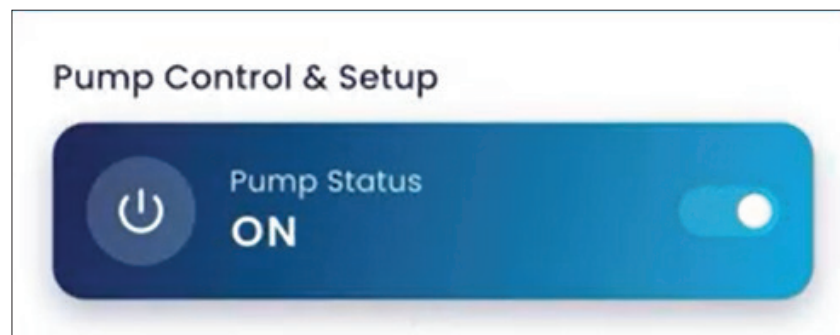

Fig.3.2
1. Start the pump by toggling the button in the upper-right of the pump control page so that the Pump Status displays '**ON**', as shown in Fig.3.2.
- On the **Pump Control & Setup** screen, make sure the pump is '**ON**'. Refer to Fig.3.2 in the previous section for a visual reference of this.